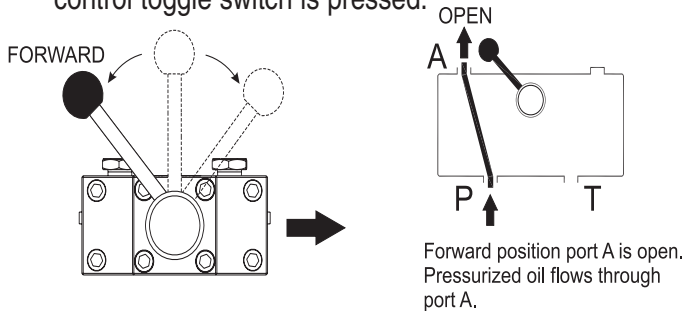

Figure 9. Control Valve Lever (Forward Position)
2. In the **forward (extend)** position, “**PORT A**” is **OPEN**, meaning the flow of pressurized fluid is allowed (Figure 9) and the hydraulic cylinder will extend once the remote control toggle switch is pressed.
4. Place the pump control valve lever in the **forward** position (Figure 9).